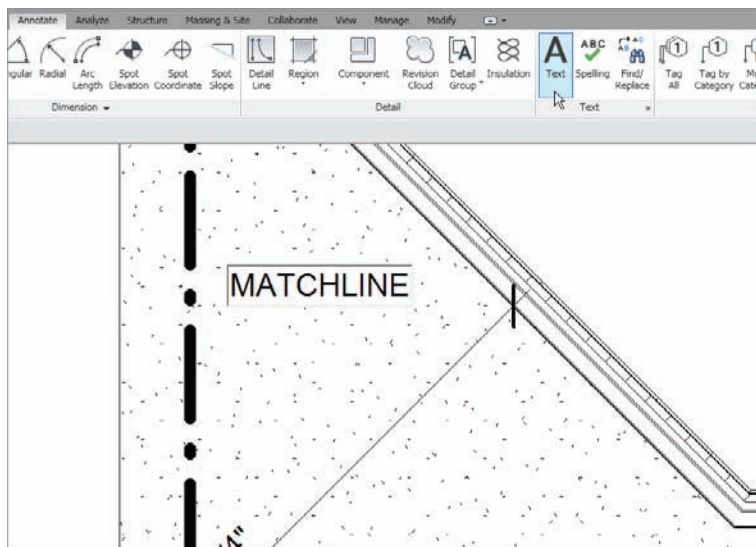

FIGURE 13.12 Typing the text **MATCHLINE**
2. On the Annotate tab, click the Text button, as shown in Figure 13.12.
3. On the Place Text tab, you have leader options. Click the No Leader button (the A), as shown in Figure 13.12.
5. Type the word **MATCHLINE**, and click off the text (see Figure 13.12).